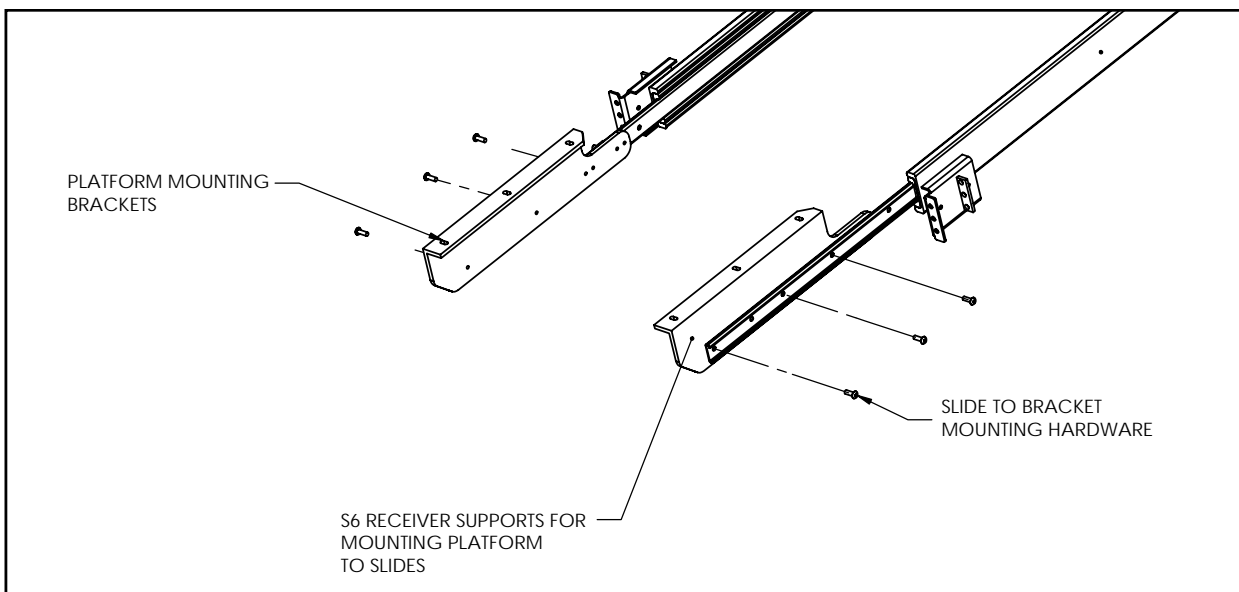

Figure 5-A. The platform mounting brackets are threaded so you will not need lock washers and nuts.
2. Attach platform mounting brackets to slides. See **Figure 5-A**. NOTE: The screws will overhang the bracket holes by $\frac{3}{8}$ ". These screws will also be used to mount the keyboard tray kit, Part # 310 113 439.